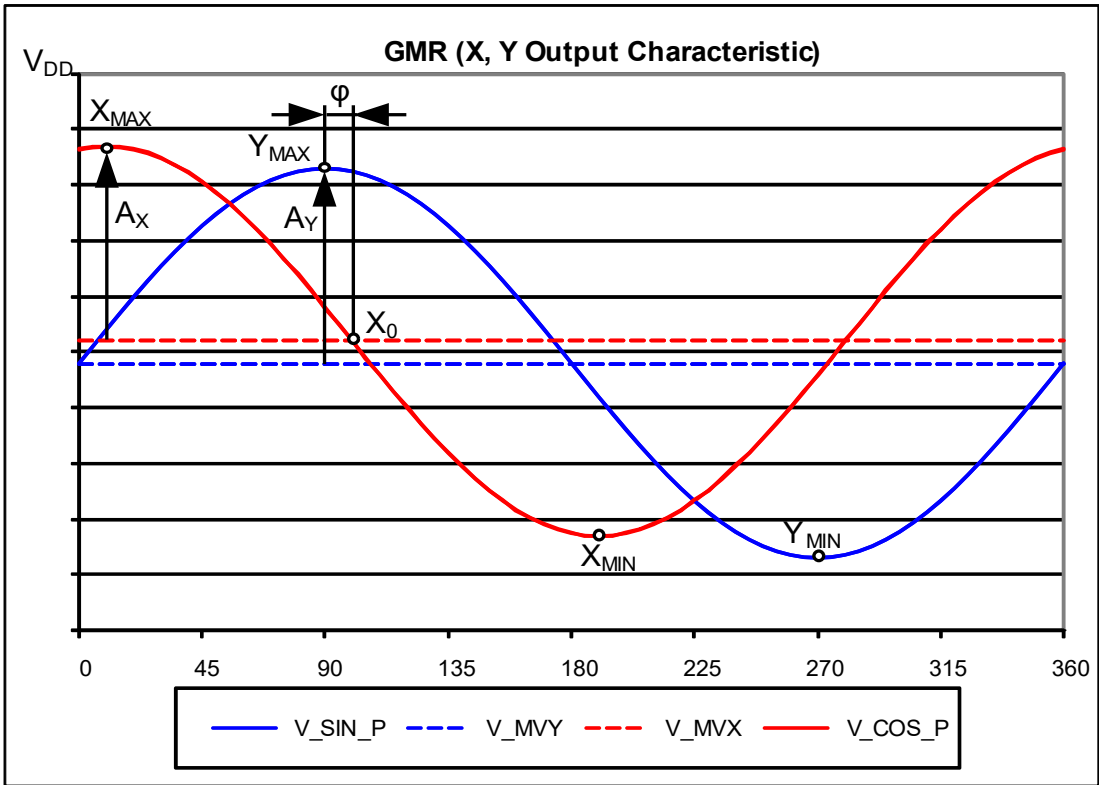
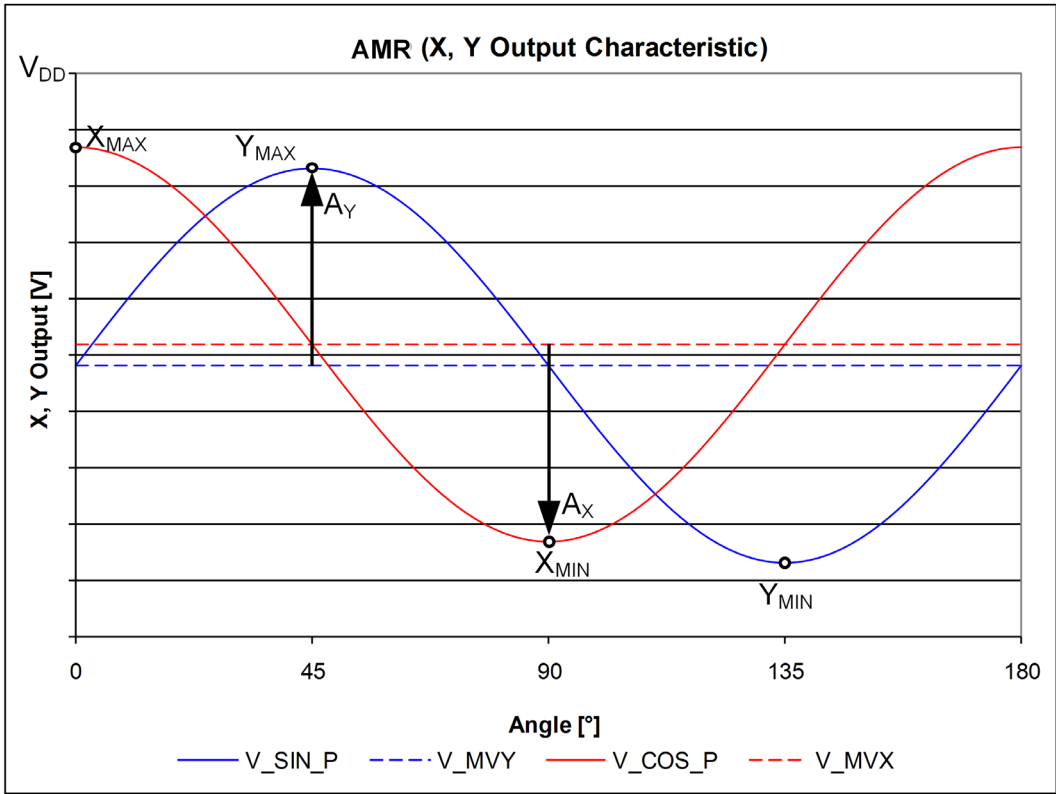
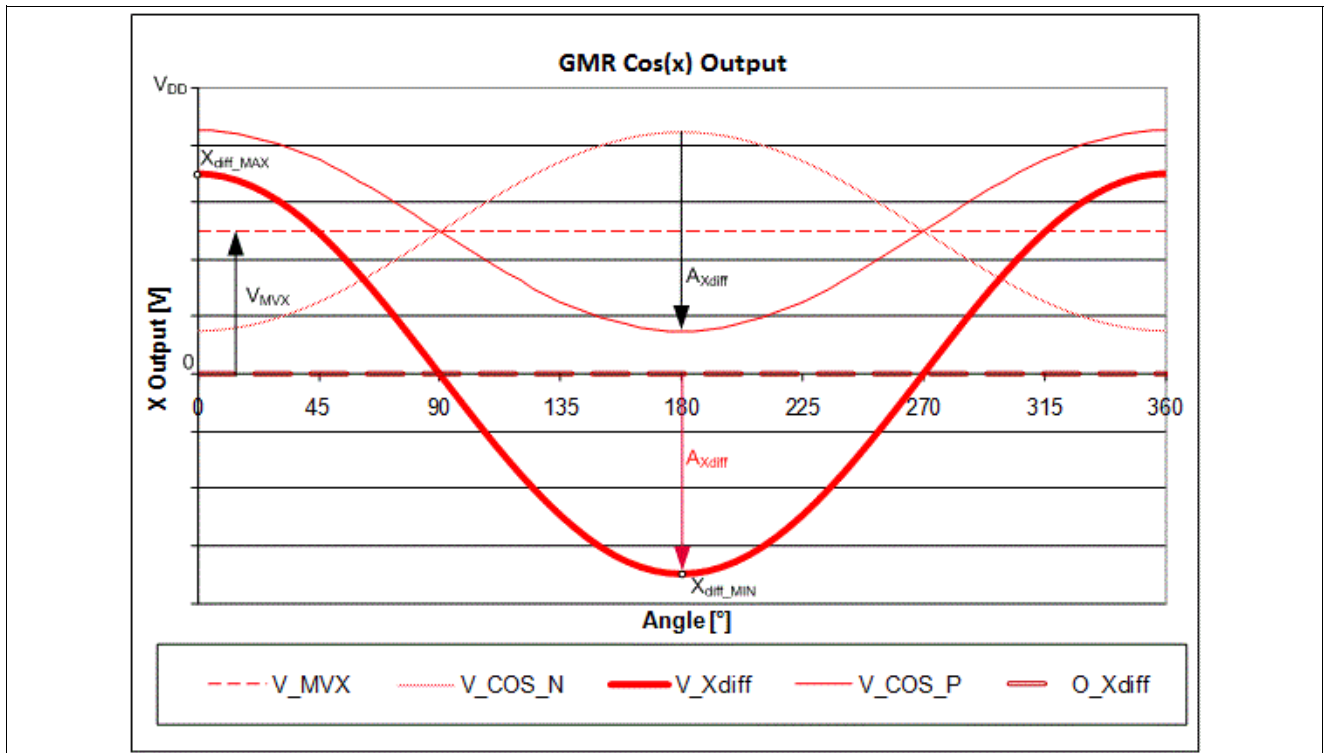

Figure 17 GMR sensor single-ended output signals
Figure 18 AMR sensor single-ended output signals
Figure 19 GMR differential output of ideal cosine
All parameters apply over the full operating range, unless otherwise specified. The parameters in Table 9 refer to single pin output and Table 10 to differential output. For variable names please refer to Figure 17 “GMR sensor single-ended output signals” on Page 20 and Figure 19 “GMR differential output of ideal cosine” on Page 21.
1) V_{max} and V_{min} correspond to the voltage levels at X_{max} or Y_{max} and X_{min} or Y_{min} respectively as shown in Figure 17, Figure 18.